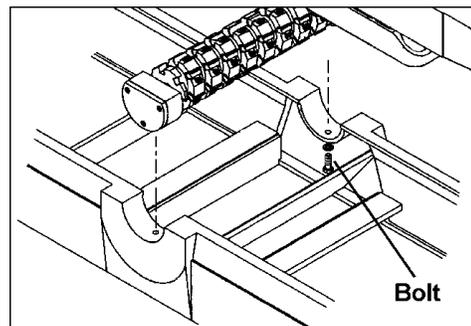

Figure 26
5. Loosen the two bolts that hold the cutterhead to the bed - these are accessed from the underside of the bearing blocks as shown in Figure 26.